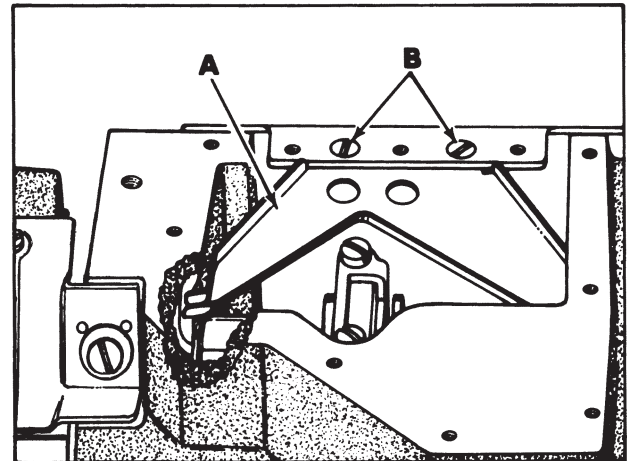

Fig 19
The oil drip plate (A, Fig.19) located in the oil reservoir should be positioned with its tip in the recessed cut out in the bed casting, as far to the left as possible without touching. It has elongated mounting holes and can be adjusted by loosening (2) screws (B) in top of the oil reservoir back cover to position as required, retighten screws.